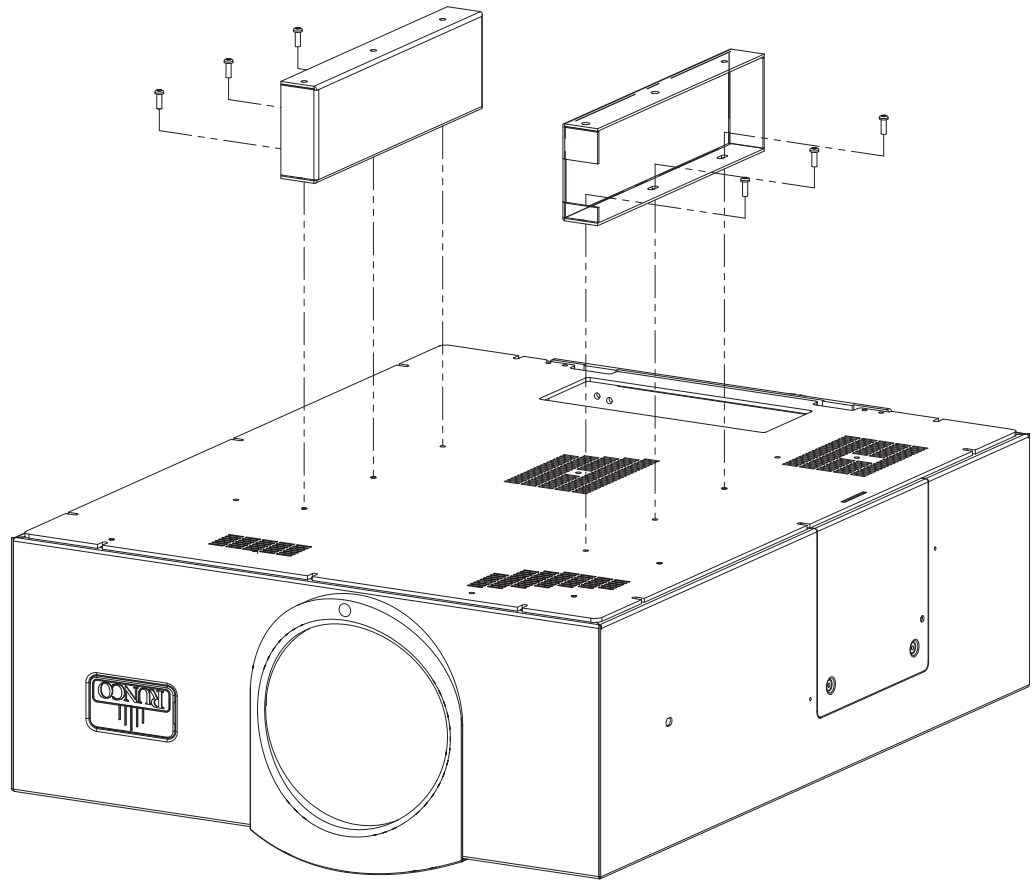

Figure 3-8. VX-6000d with Ceiling Mount Adapters/Projector Stands
Using six (6) each of the supplied, 10-32 x 1/2" Pan-Head Phillips screws (item #2), attach the AutoScope Ceiling Mount Adapters/Projector Stands (items #3 and #4) to the projector as shown in Figure 3-8.